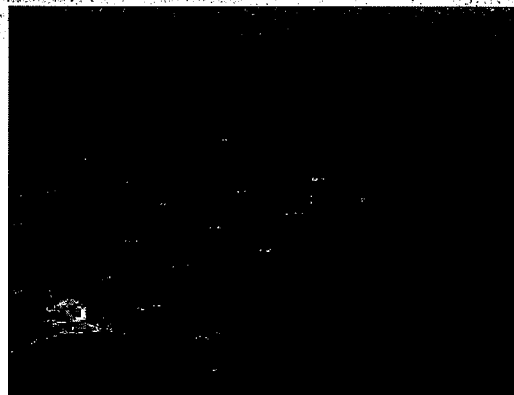

Figure 41
1. Remove 4 screws holding foot plate to solution tank (see figure 41).